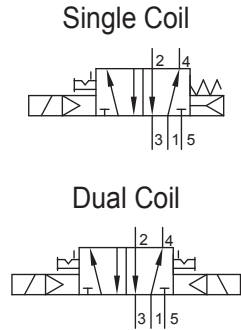

Figure 5: Schematics for 5/2
- **5/2 Double Acting/Direct Acting configuration: Supply pressure to Port 1 (1/4" NPT). Exhaust both Ports 3 and 5 (1/4" NPT). Refer to Figure 5 for the 5/2 schematic.**